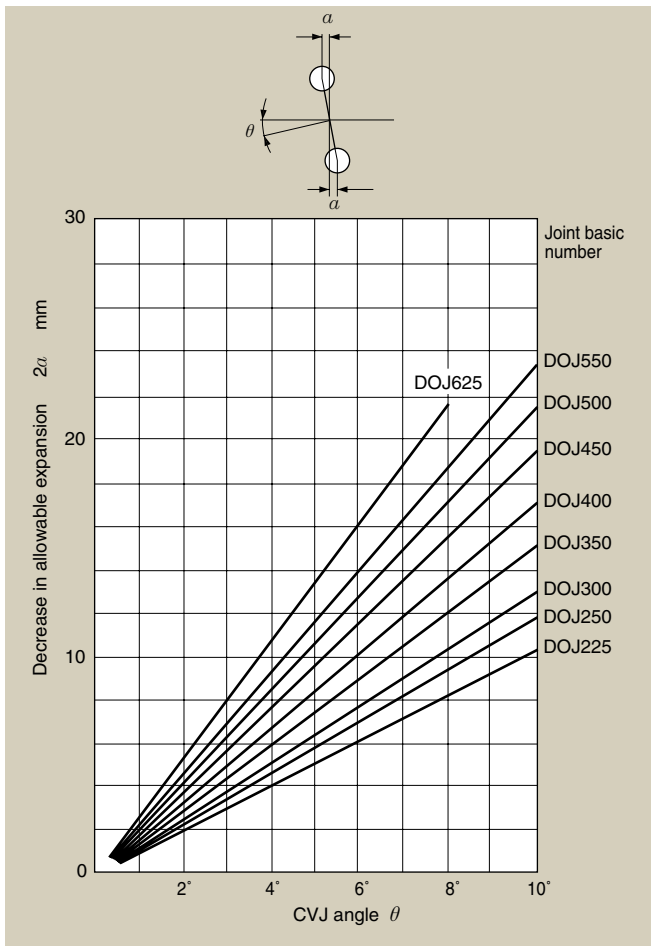

**Fig. 15 Allowable RPM of CVJ**
2. With the long shaft series joints, depending on the shaft length, the working RPM of joint will be limited. Check the allowable RPM of the intended shaft against the data in **Fig. 15**.